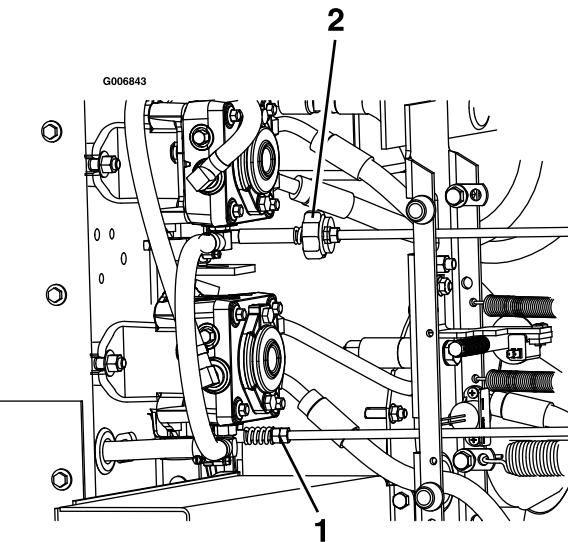

Figure 57
9. To obtain the neutral position, adjust the left and right pump control rod linkages that connect the steering control to the pump control arms until the wheels stop, or creep slightly in reverse (Figure 57).
11. Adjust the right pump linkage by using a wrench to turn the double nuts on the assembly (Figure 57)